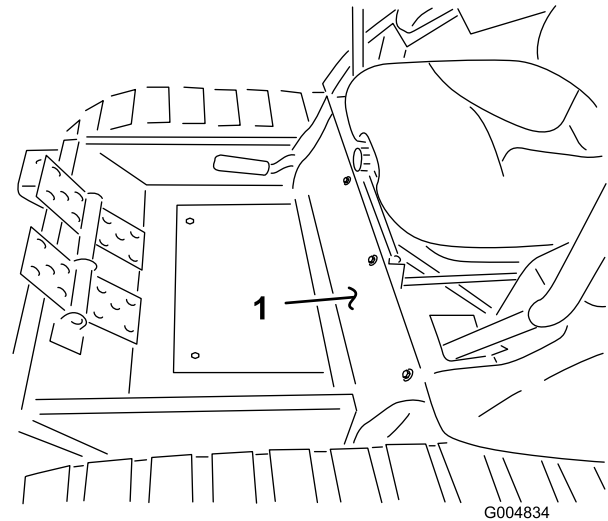
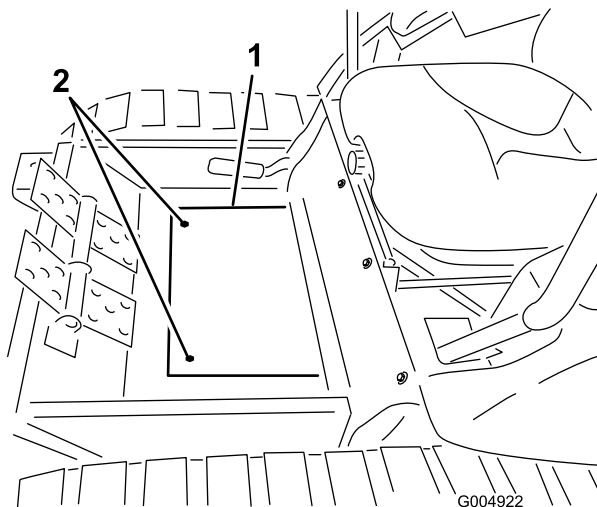

Figure 62
Figure 61
5. Install the floor plate cover (Figure 61) and the front cover (Figure 62).